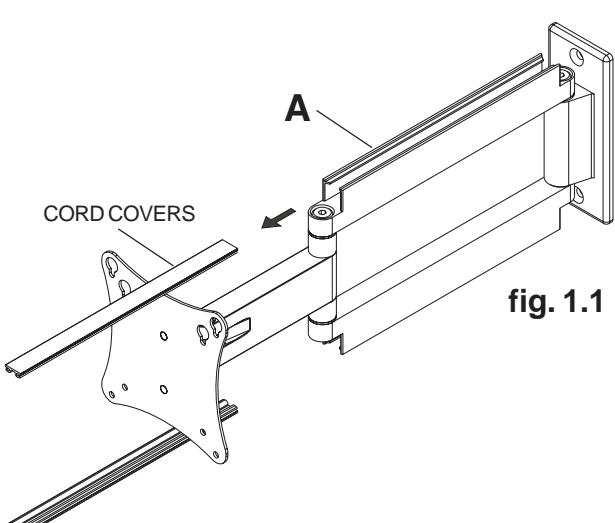
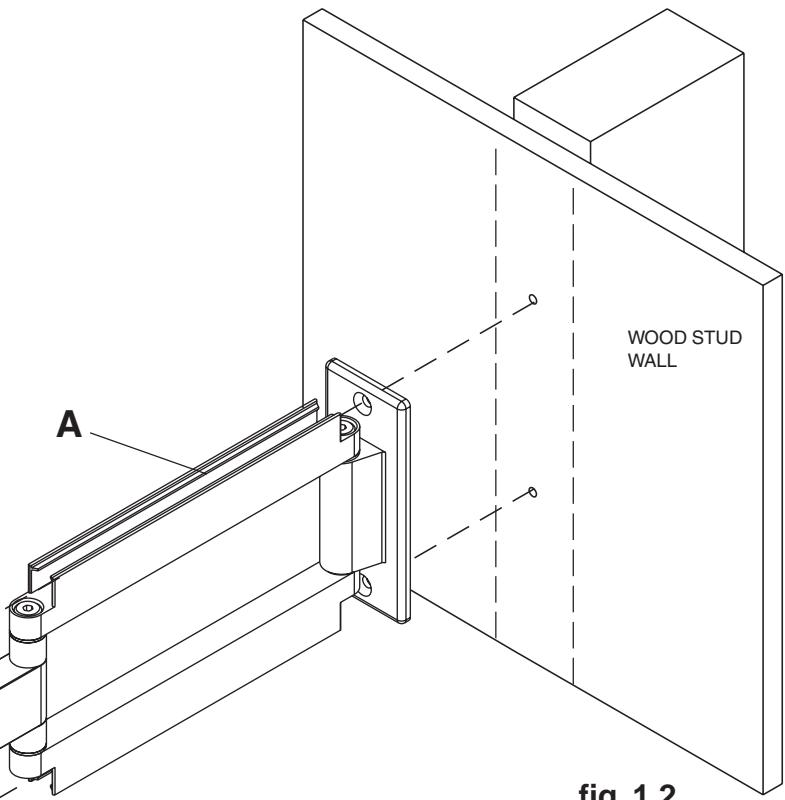

fig. 1.1
fig. 1.2
- 1 Remove cord covers from wall arm assembly (**A**) as shown in figure 1.1. Using a stud finder, locate and mark the edges of the wood stud used in mounting this product. Use of an edge to edge stud finder is highly recommended. Use a level to draw a vertical line down the center of the stud. Use wall plate as template to mark center of holes along the vertical line. Drill two 5/32" (4 mm) dia. holes 2.5" (65 mm) deep. Attach wall arm assembly (**A**) to wall using two #14 x 2.5" flat head wood screws (**D**) as shown in figure 1.2.
- 1 Remove cord covers from wall arm assembly (**A**) as shown in figure 1.1. Level and use wall plate as template to mark center of holes. Drill two 1/4" (6 mm) dia. hole to a minimum depth of 2" (51 mm). Insert anchors (**C**) in holes flush with wall as shown in fig 1.3. Place wall arm (**A**) over anchor and secure with wood screw (**D**) as shown in figure 1.4. Make sure wall arm is level, and tighten all fasteners. See figure 1.5.